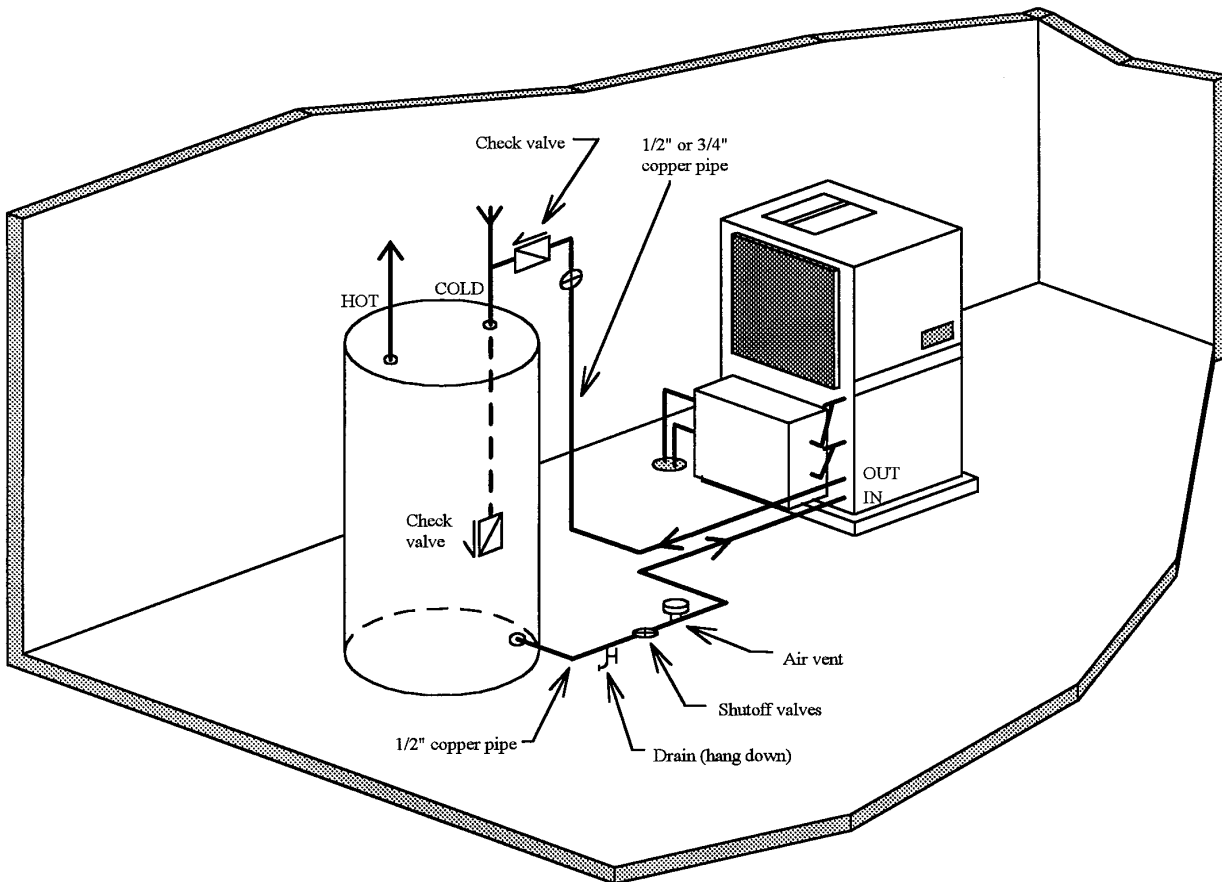

Figure 8 – Alternate Desuperheater Installation
*Taking hot water from the bottom drain and returning it to the cold water supply line (See Figure 8).* This method maintains the same comfort and efficiency levels but increases installation time and costs. This method requires a check valve in the return line to the cold water supply to prevent water from flowing backwards through the desuperheater when the tank is filling. Water passing through the pump backwards damages the rotor's bearing,